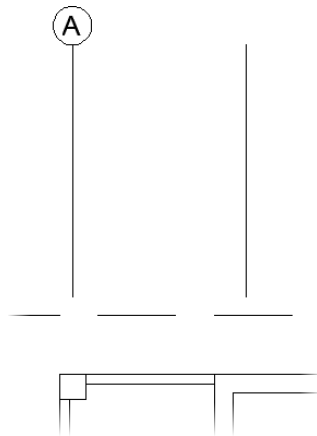

FIGURE 9.10: The first grid symbol block is inserted.
- Verify that the Enter Grid Letter value is set to A in the Edit Attributes dialog box. Click OK. Clicking OK inserts the grid symbol at the endpoint of the leftmost vertical gridline (see Figure 9.10).